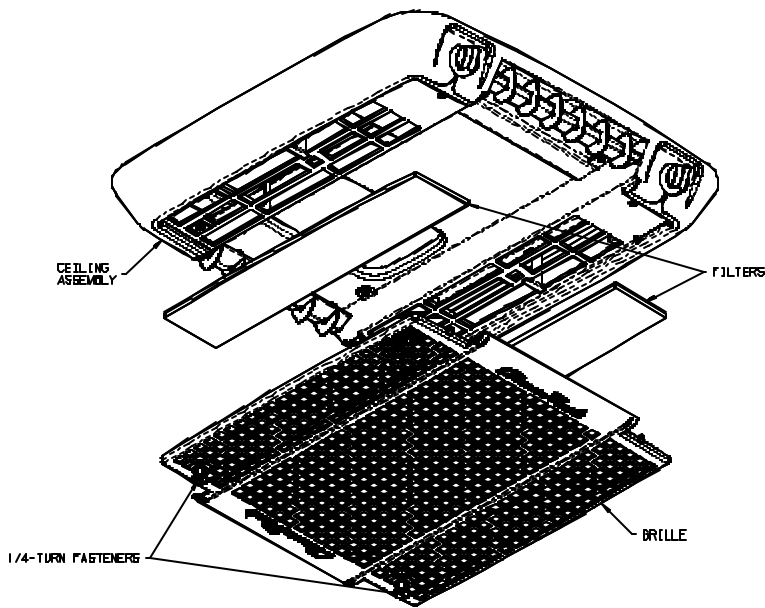

FIGURE 2
1. Disengage the two 1/4 - turn fasteners that secure the ceiling assembly grille to the ceiling assembly (See Figure 2).
3. Take the filters out and either clean or exchange them with new filters (See Figure 2).